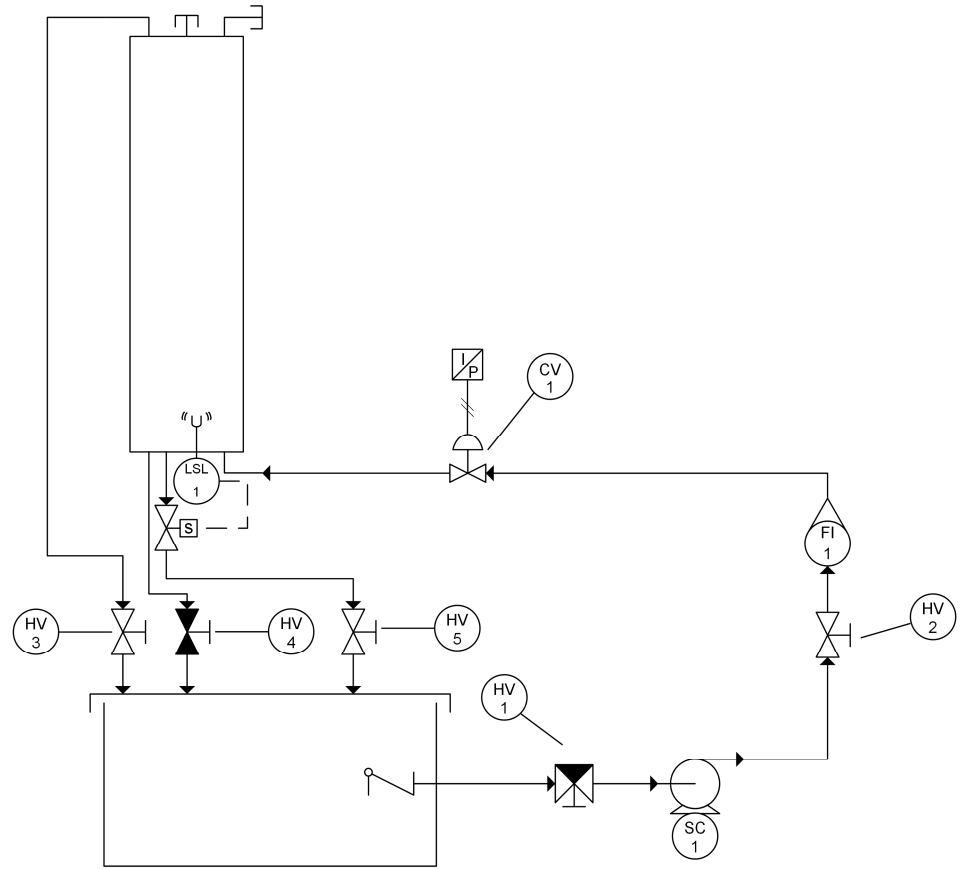
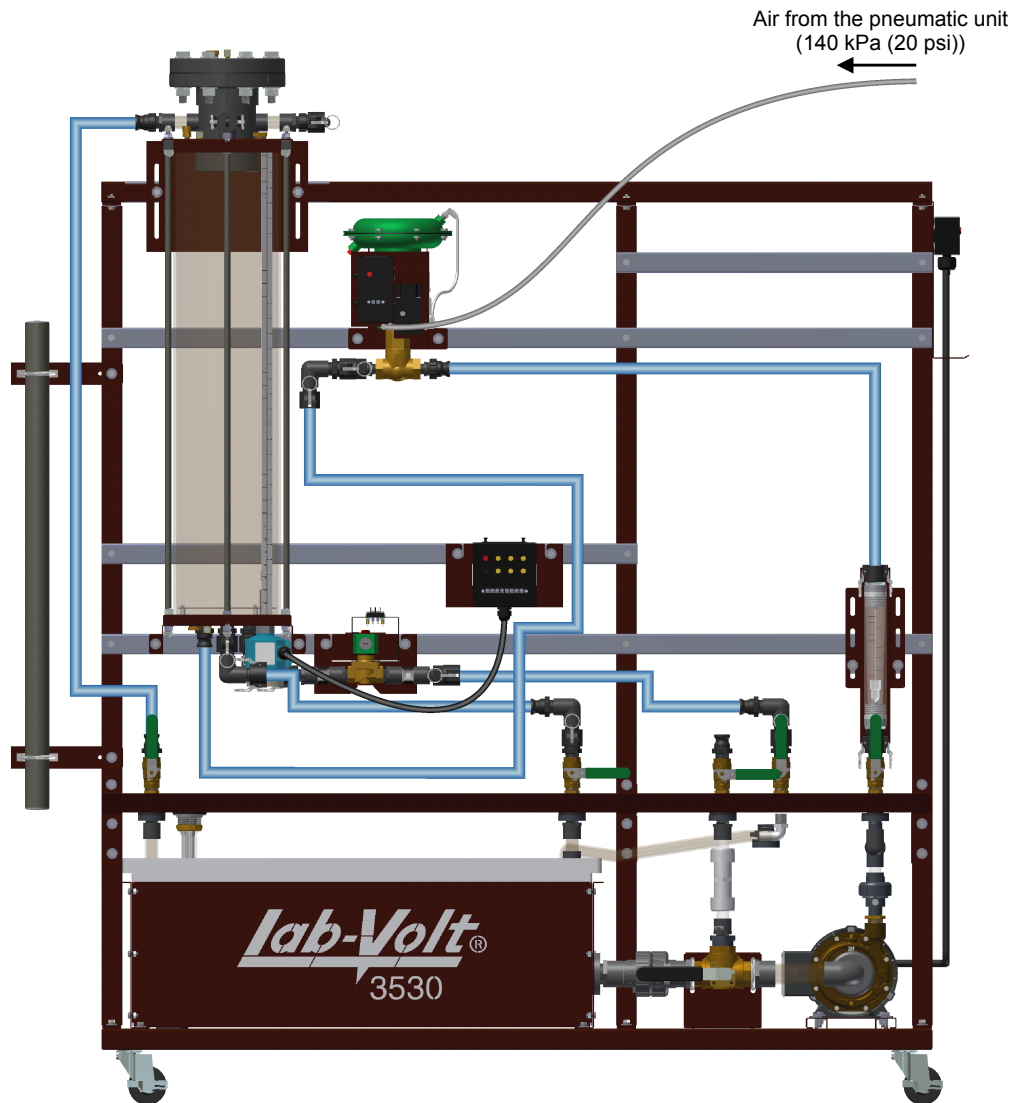

Figure 25. P&ID.
Figure 26. Setup.
1. Connect the equipment according to the piping and instrumentation diagram (P&ID) shown in Figure 25 and use Figure 26 to position the equipment correctly on the frame of the training system. To set up your system for this exercise, start with the basic setup presented in the *Familiarization with the Instrumentation and Process Control Training System* manual and add the equipment listed in Table 11.